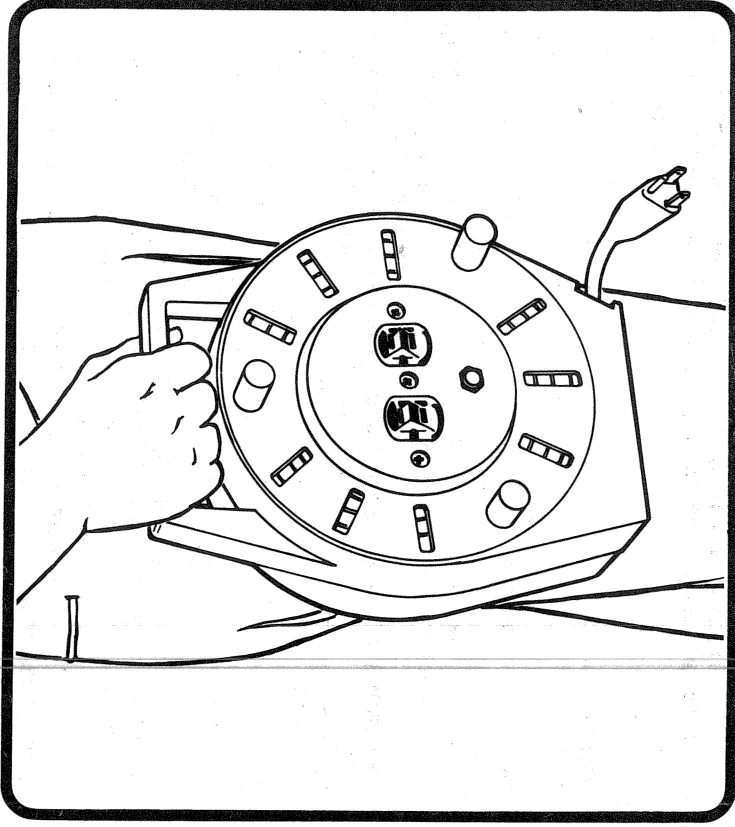

FIG. 3
- Depress the circuit breaker button, as shown in figure 3 (toward the Cord Winder body.)